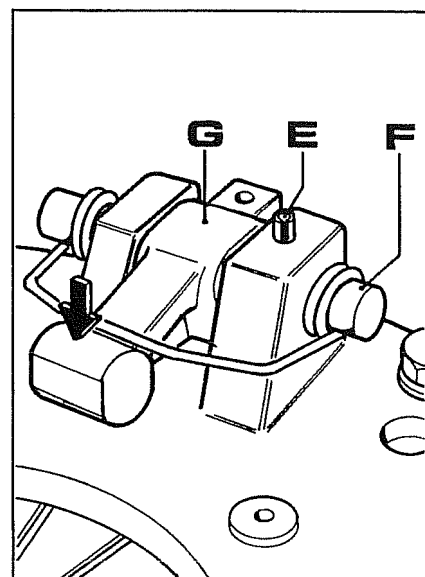
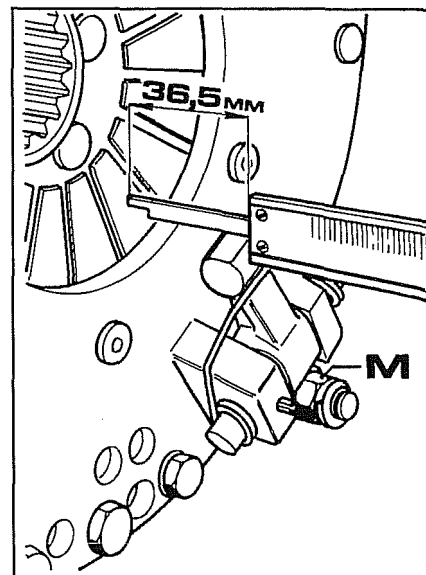

Fig. 23
Fig. 25
- c. Check to make sure that lever **G** Fig. 23 heads (identified by the arrow in the figure) are not excessively worn.
- Extract pivot **F**, replace the lever and reposition the spring as shown in Fig. 23.
- To regulate PTO clutch disengage levers **G** Fig. 23, turn nuts **M** Fig. 25 till you have 36.5 mm from the top of the levers to the spring as shown in the Figure.